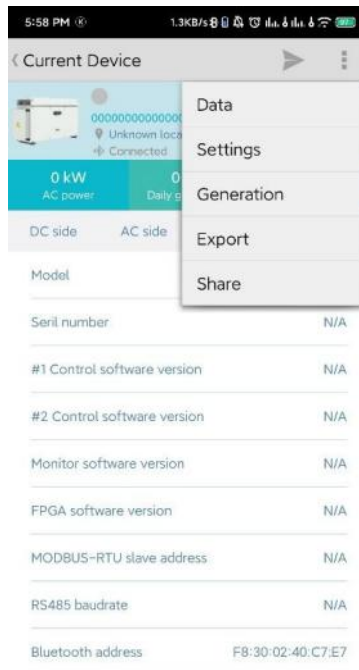

Figure 5-16 Menu item
- (1) Tap  in the upper right corner and select the **Share** menu, as shown in Figure 5-16.